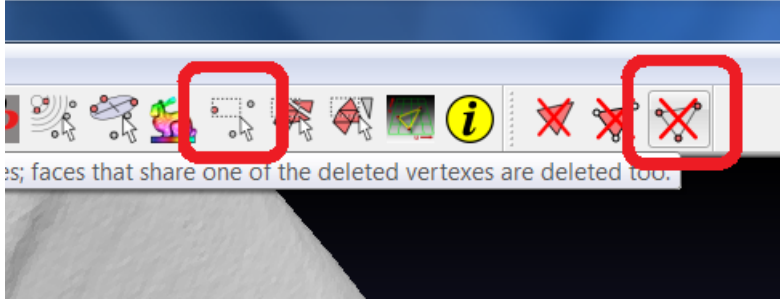

Figure 4: Buttons for selecting and deleting vertices.
- Select and remove vertices. Click Select Vertices button, drag a box to select vertices and then click Delete button. The buttons are shown in Figure 4.